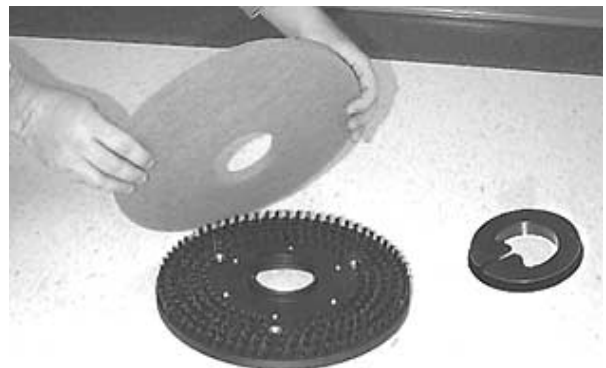

FIG. 8
6. **(For Pad Installation)** Attach pads to pad drivers before connecting drivers to motor hub. Secure pads with plastic centerlock ring (*Figure 8*).